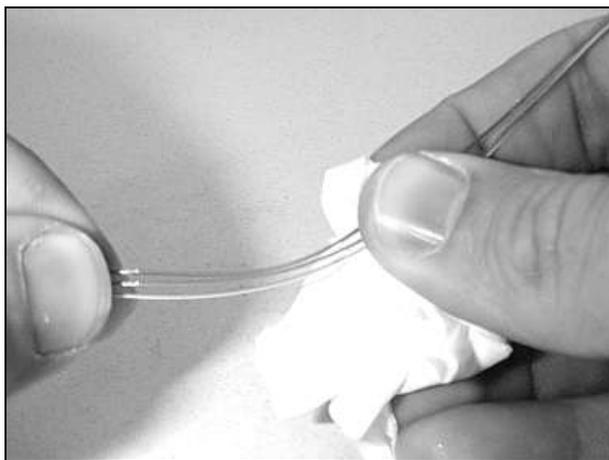

Figure 12 – Clean the optical fibers.
4.13 Carefully clean the exposed fibers or ribbons with a lint free wipe and isopropyl alcohol taking care to avoid fiber damage. The cable is now ready for testing and/or splice preparation (Figure 12).